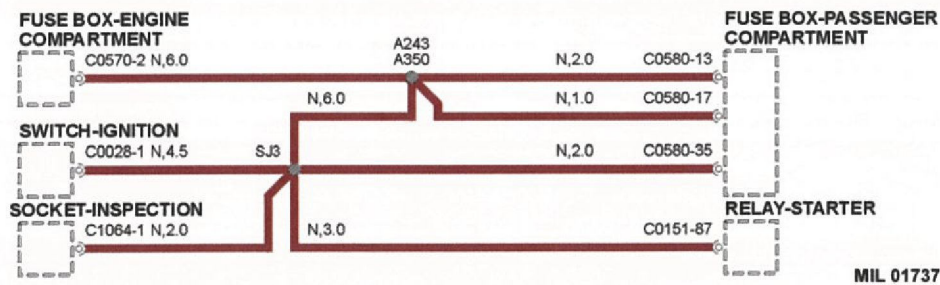

Fig 4 Power distribution
15.2 Wire length (Power and Earth distribution only) is the length of wire in millimetres. This can be used to locate internal harness splices; look for the shortest wire between the joint and connector. For example, it can be seen that C0570-2 is 730 mm from joint A350 (refer to Fig 4).